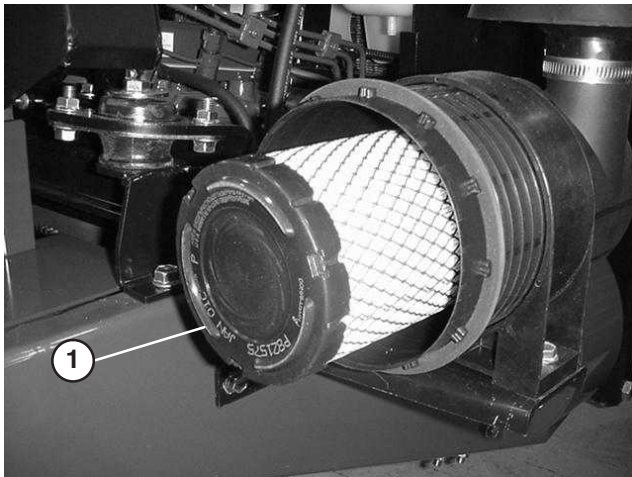

Figure 45
3. Remove and replace the primary filter (Fig. 45). Cleaning of the used element is not recommended due to the possibility of damage to the filter media. Inspect the new filter for shipping damage, checking the sealing end of the filter and the body. Do not use a damaged element. Insert the new filter by applying pressure to the outer rim of the element to seat it in the canister. Do not apply pressure to the flexible center of the filter.